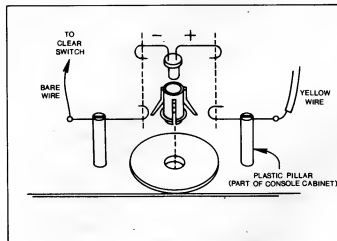

Figure 31. Indicator Assembly
7. Form snipped leadwires as shown in Fig. 31 and connect new LED pigtails to them. Solder quickly to prevent overheating LED.